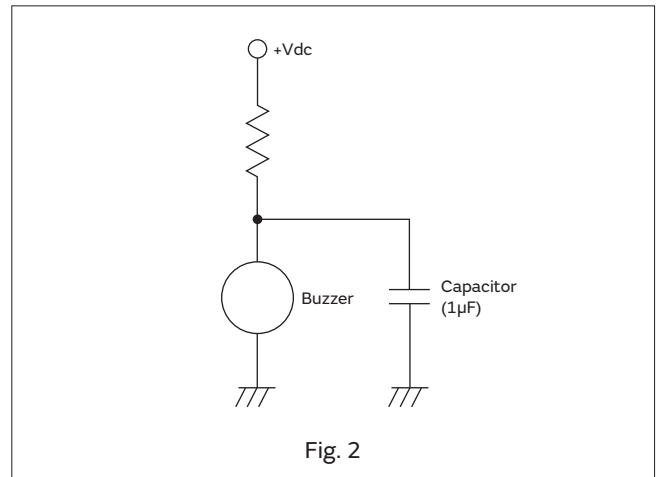

Fig. 2
4. Please don't put a resistor between the oscillation circuit and power supply to control the sound volume of the piezoelectric sounder or the piezoelectric buzzer. Doing so could cause an unstable sounding state like an abnormal oscillation or the oscillation stopping because of the change in oscillation conditions. Please insert a capacitor (about $1\mu\text{F}$) in parallel with the piezoelectric buzzer, if you need to control the sound volume. (Please see Fig. 2)